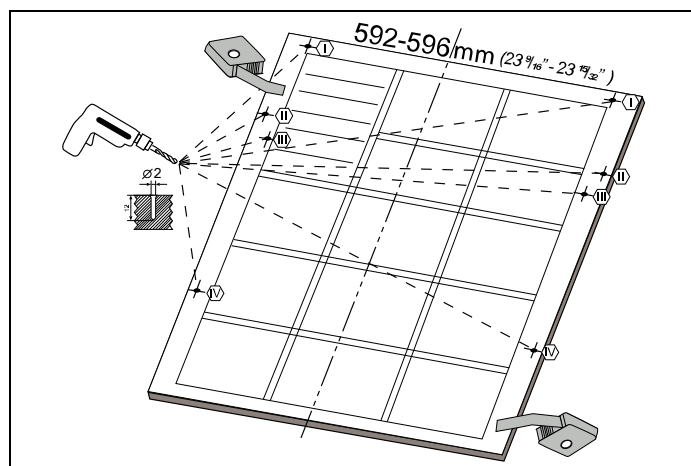

Fig. 19
As shown in Fig. 19 , you must measure the height and depth of the cabinetry to determine the dimensions of the outer door.
- 2) As shown in Fig. 19 , the screw hole is opened to the outer door from the points marked on the installation plan. Diameter of Drill Bit: 5/64" (2 mm) Depth of Drill Bit: 15/32" (12 mm)